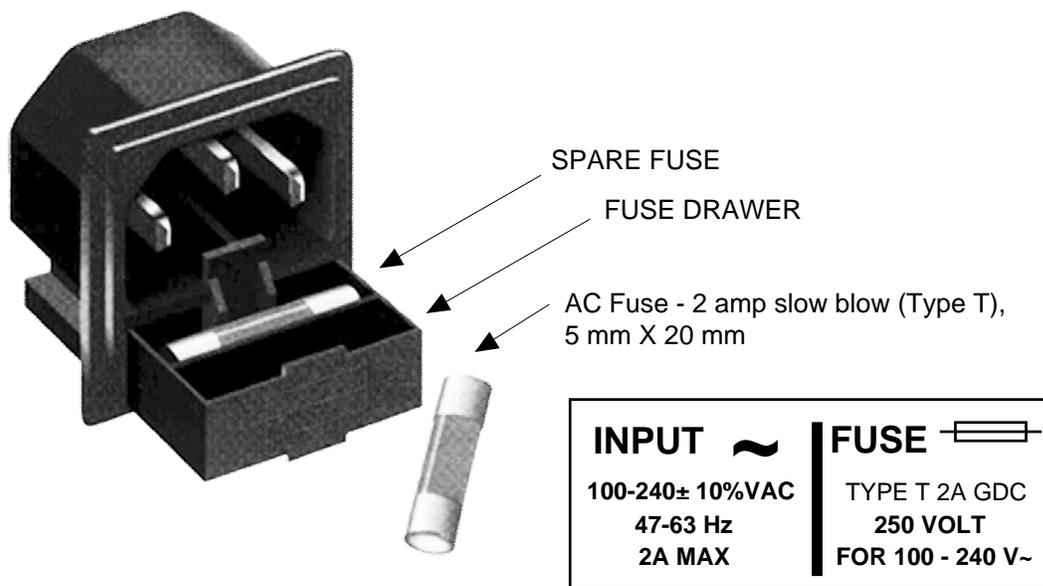

FIGURE 2.4 Fuse Location and Spare Fuse
9. AC Fuse - The fuse is a 5 mm x 20 mm, 2 amp slow blow (Type T) and is inserted in the far slot in the drawer below the AC input as shown in Figure 2.4. There is a spare fuse in the near slot.